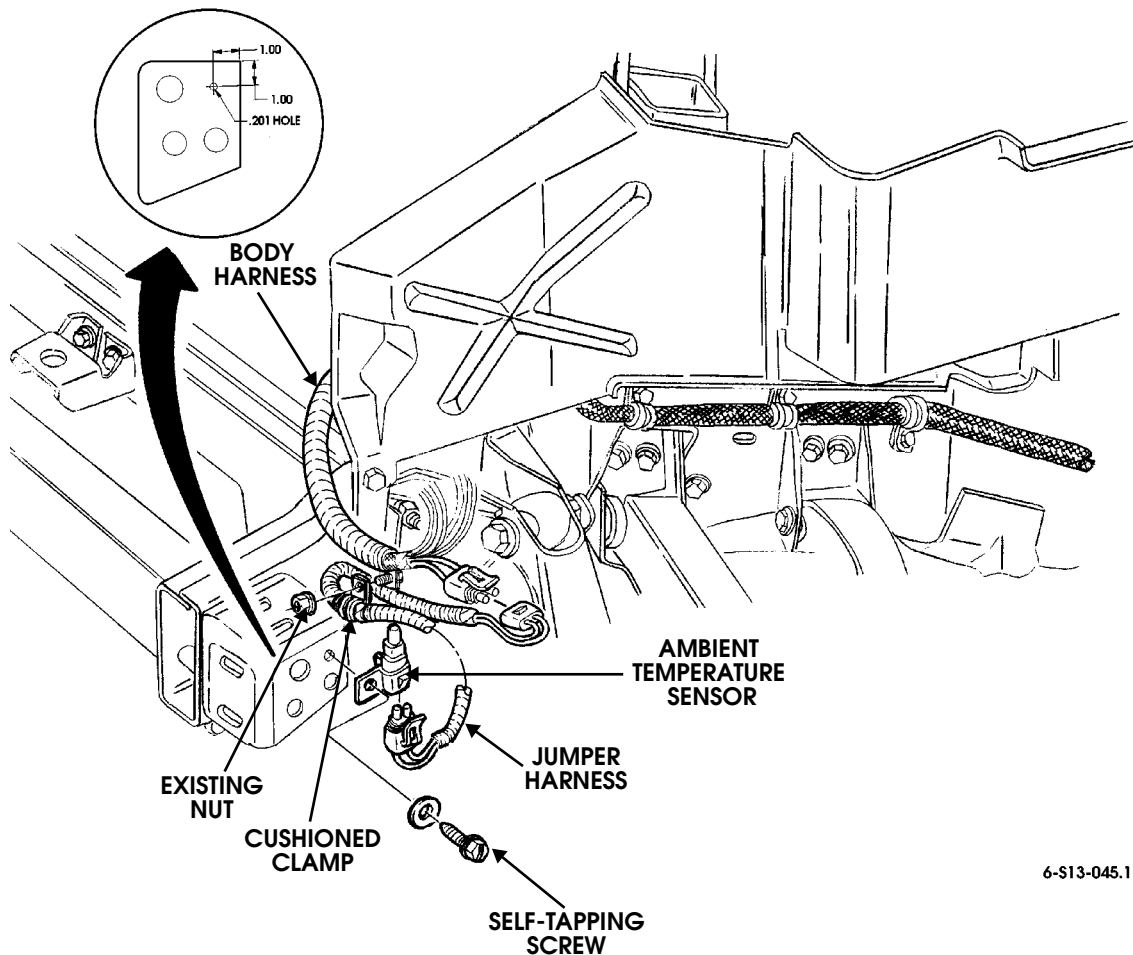

Figure 13-79: Ambient Temperature Sensor
1. Remove existing nut, cushioned clamp, and ambient temperature sensor jumper harness from the body harness (Figure 13-79).
1. Install ambient temperature sensor to the frame with self-tapping screw (Figure 13-79).